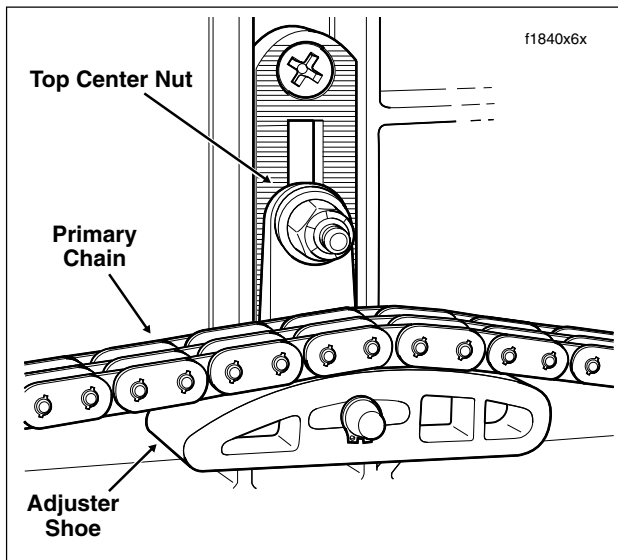

Figure 6-25. Chain Tensioner Assembly
9. Loosen top center nut from captured bolt of chain tensioner assembly. See Figure 6-25. Lower the chain tensioner assembly as required, so that the adjuster shoe rests flat on casting of primary chaincase.